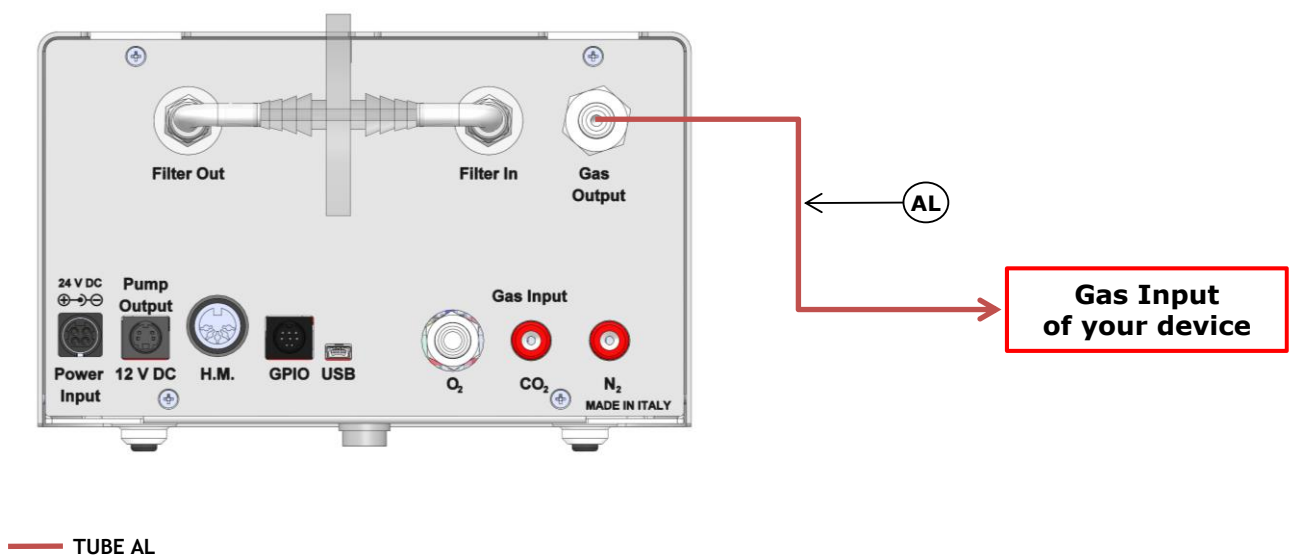

Figure 15. Gas Output connections.
7. Connect the valved in-line connector of the TUBE-AL to the gas port labeled “Gas output” on the rear panel of CO₂-O₂-UNIT-BL [0-20; 1-95] and the other side of the TUBE-AI to your device, as shown in Figure 15.